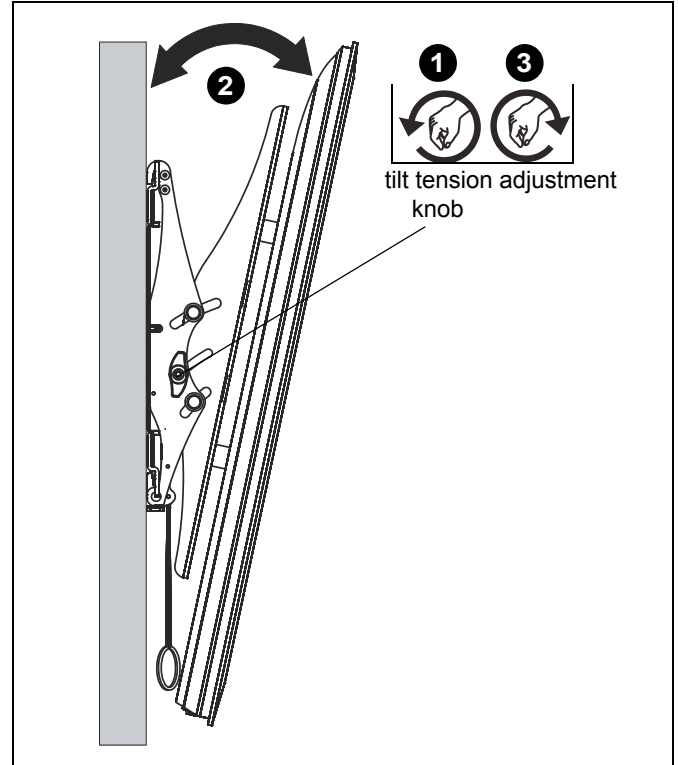

**Figure 11**
1. Remove the tilt tension knob, washer and screw from interface bracket. (See Figure 11)
2. Replace the knob, washer and screw in the opposite order. (See Figure 11)